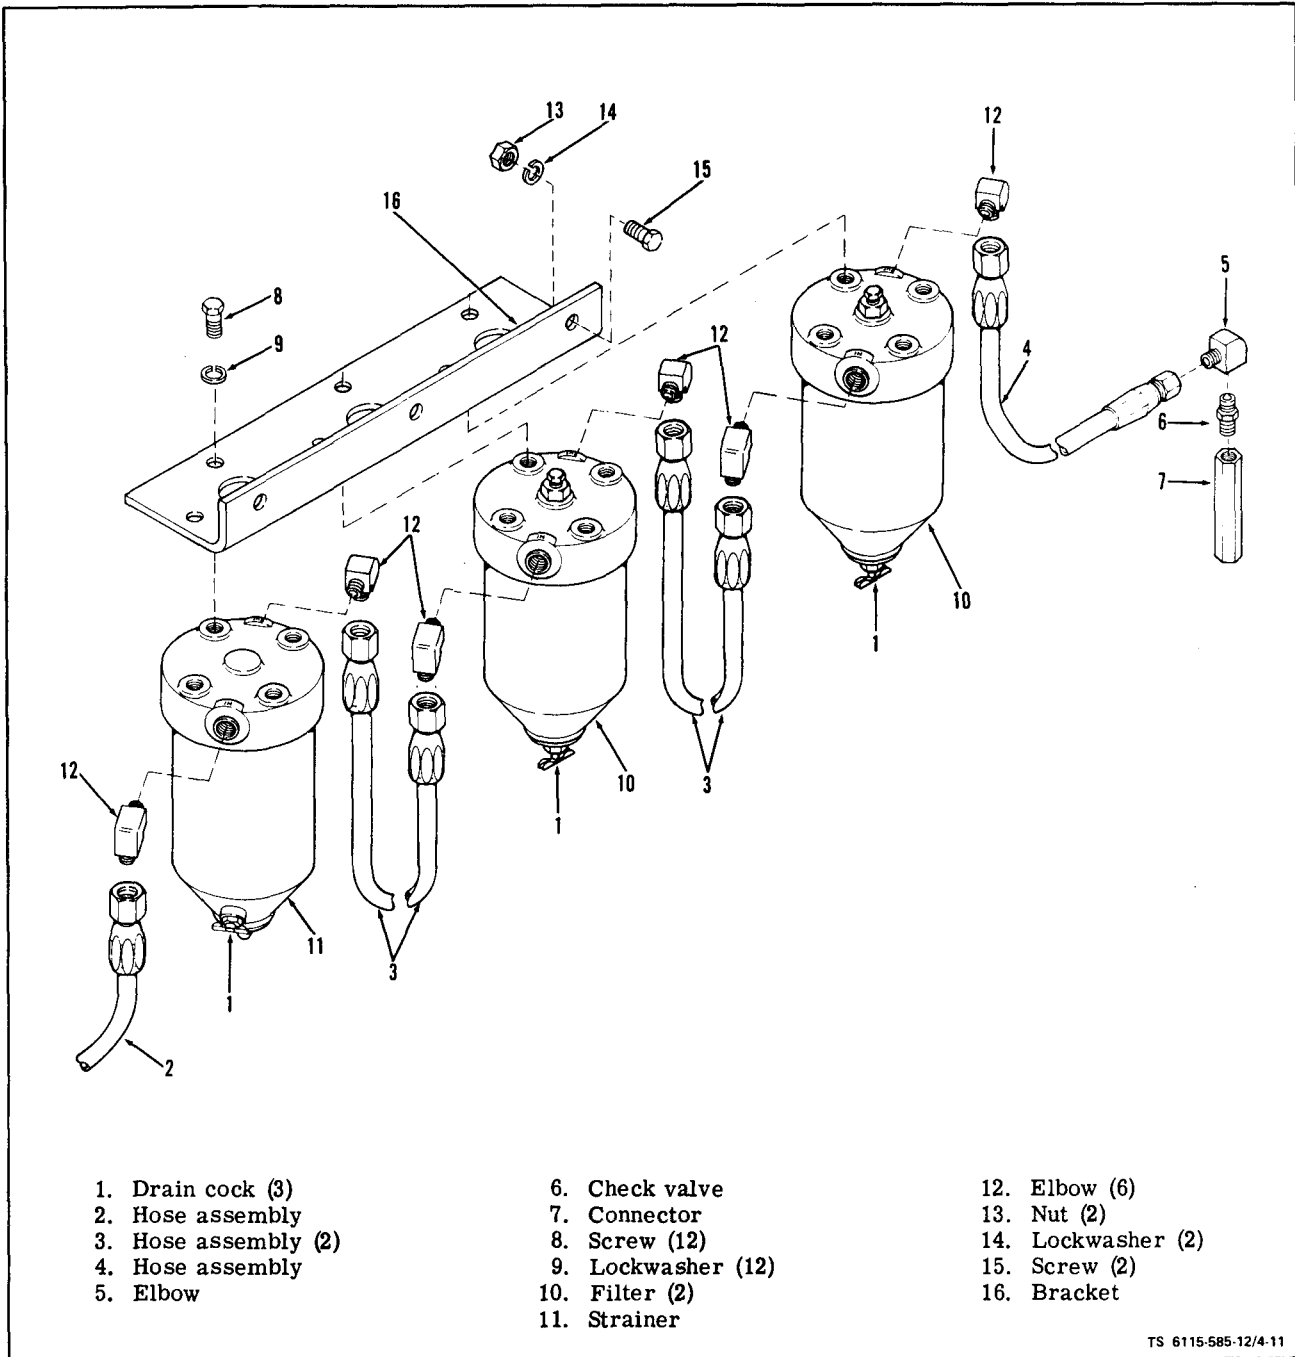

Figure 4-11. Fuel Filters and Fuel Strainer Assembly
(1) Fuel Filter Assembly (see figure 4-11). Drain fuel into a suitable container by opening drain valve (1). Disconnect fuel lines (2, 3 and 4) and drain fuel lines. Remove elbow (5), check valve (6) and coupling (7). Plug fuel lines to prevent accumulation of foreign material.
(2) Remove screws (8) and lockwasher (9) attaching each filter assembly (10) and strainer assembly (11) to mounting bracket and remove filter or strainer assembly. Remove inlet and outlet fittings (12). Be careful when removing fittings not to damage housing.
(3) Remove nuts (13), lockwashers (14), screws (15) and remove bracket (16).
(4) Inspect check valve (6) for cleanliness. Using a clean punch depress check valve from seat (opposite end of arrow) and check for free movement and reseating upon release. Replace check valve if it does not move freely.